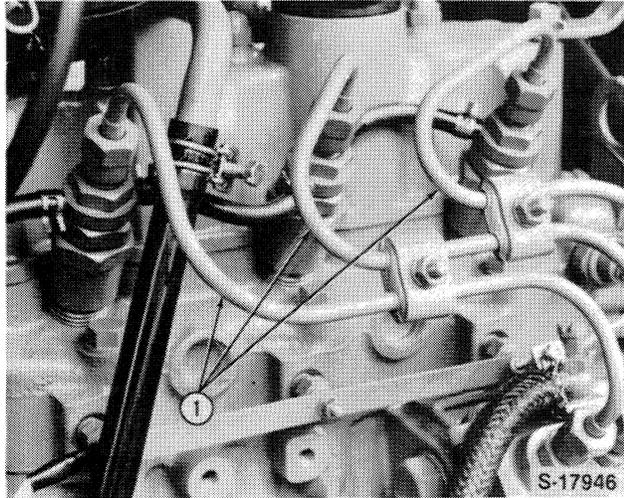

Figure 38
- Remove the injector lines and cap the openings, Figure 38.